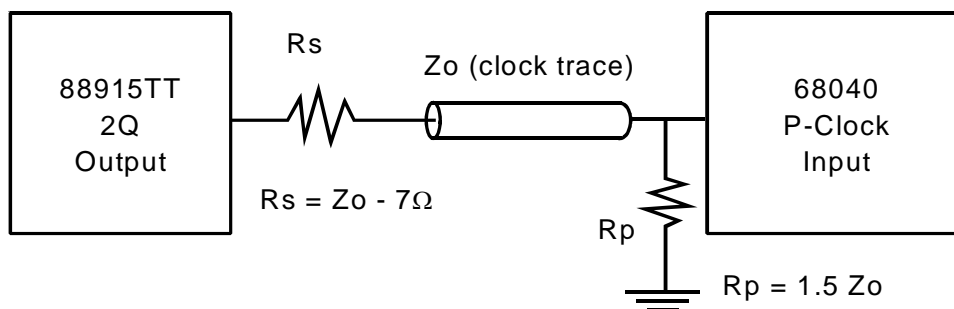

Figure 1. MC68040 P-Clock Input Termination Scheme
- These two specs (t_{RISE/FALL} and t_{PULSEWIDTH} 2Q output) guarantee that the FCT88915TT meets 68040 P-Clock input specification. For these two specs to be guaranteed by IDT, the termination scheme shown in Figure 1 must be used: